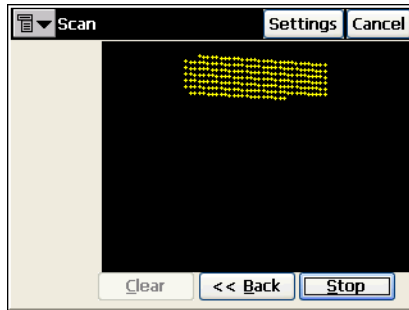

Figure 6-58. Scanning without Images
- View the scanning in progress. As the total station measures points within the pre-defined area, each point will be displayed on the screen (Figure 6-58).